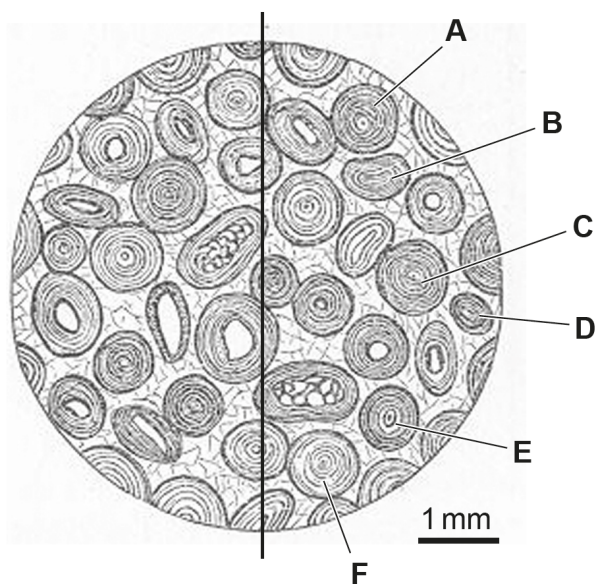

Fig. 1.2
(b) Fig. 1.2 shows a thin-section diagram of Jurassic Oolite.
(i) Annotate Fig. 1.2 to show the key features of this oolite.
- (ii) Measure the maximum diameter of the grains labelled **A** to **F** on **Fig. 1.2** and calculate the mode. Write your measurements in the table.